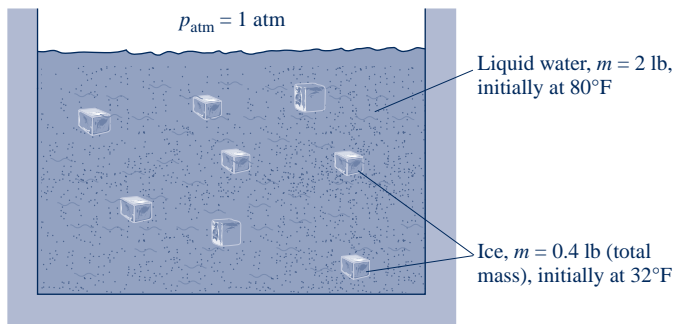

Fig. P3.88
3.88 As shown in Fig. P3.88, a tank open to the atmosphere initially contains 2 lb of liquid water at 80°F and 0.4 lb of ice at 32°F. All of the ice melts as the tank contents attain equilibrium. If no significant heat transfer occurs between the tank contents and their surroundings, determine the final equilibrium temperature, in °F. For water, the specific enthalpy change for a phase change from solid to liquid at 32°F and 1 atm is 144 Btu/lb.